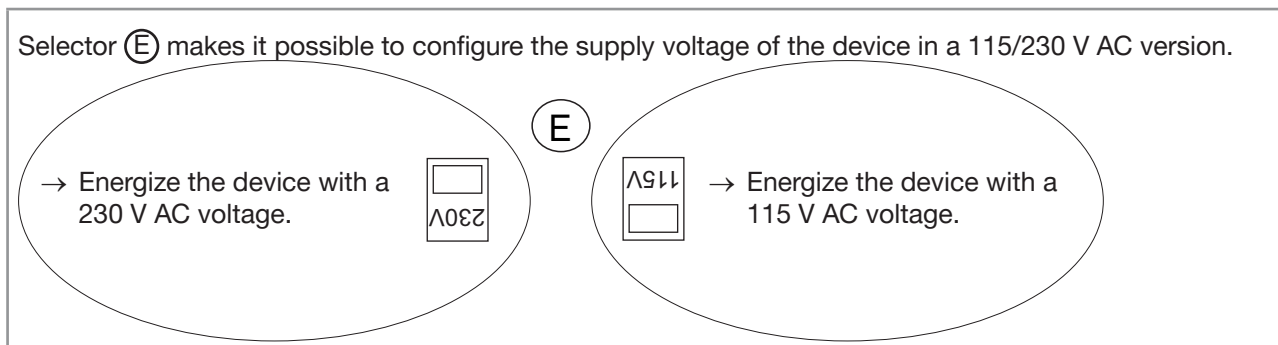

Figure 11: Selector of the supply voltage on a 115/230 V AC version
- ▶ Energize the device with a supply voltage in accordance with the position of the selector. See Figure 11, chapter 7.4.5.
- If the wall-mounted version is energized with a 115/230 V AC power supply, set selector **E** as shown in Figure 11.